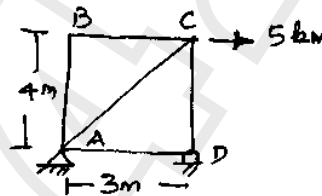

Fig. 2
- (b) For the truss shown in Fig. 2, find the horizontal movement of the roller at D. AB, BC, CD area = 8 cm²